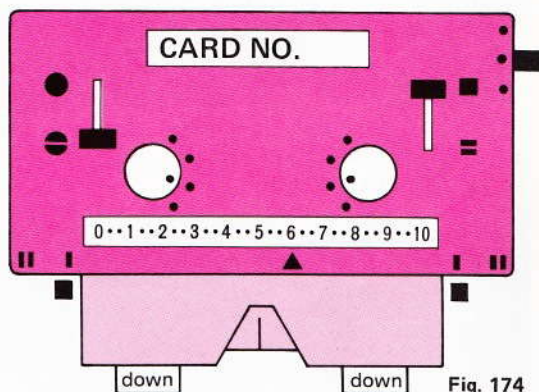

Fig. 174
- Set carriage as in fig. 174 (returning levers on 'normal') and push carriage to the left. The needles are selected.